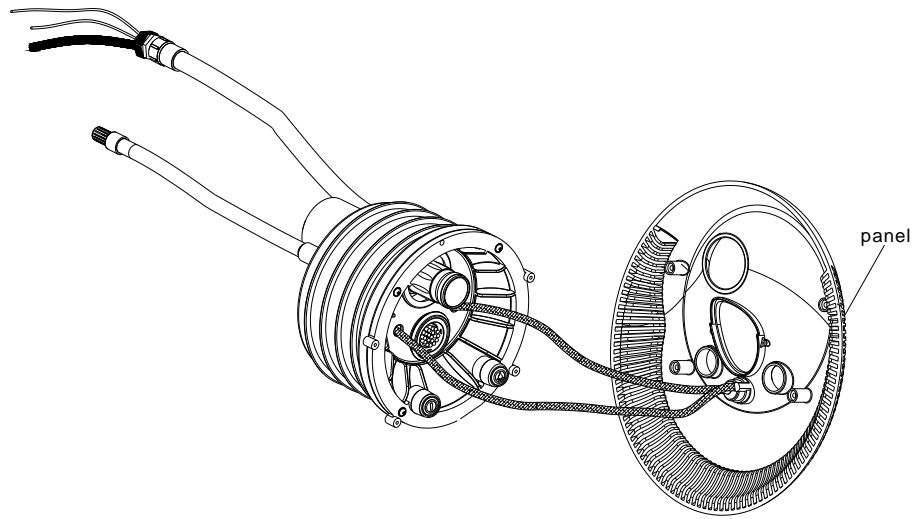

Figure 11
- Connect the pipes of the shell to the side of the mask of the air button. Connect the gas nozzle of the support frame to the middle of the gas nozzle (Figure 11); (Note: must not be reversed)